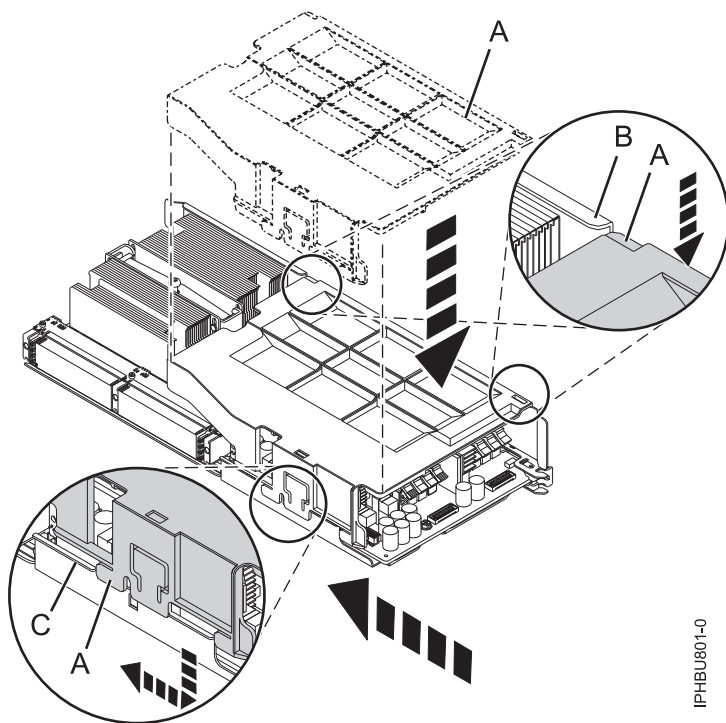

Figure 10. Installing the system processor assembly cover
- If you have the cover shown in Figure 10 on page 14, install the cover under the flanges on each side of the processor assembly. To install the cover, push the cover (A) down and slide it to the left under the flanges (B) and (C).